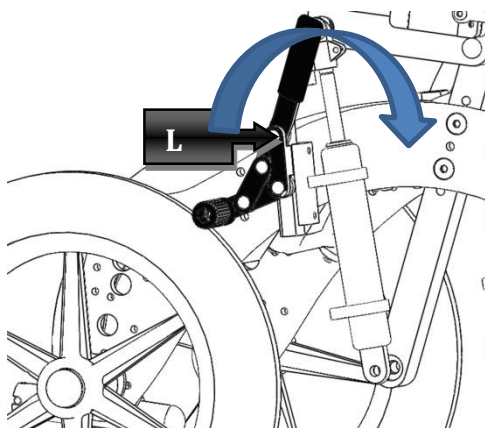

Figure 6
To lock the brakes use the lever (L) shown in Figure 6. In this way the wheelchair is blocked against any involuntary movement. Repeat this operation for both rear wheels.